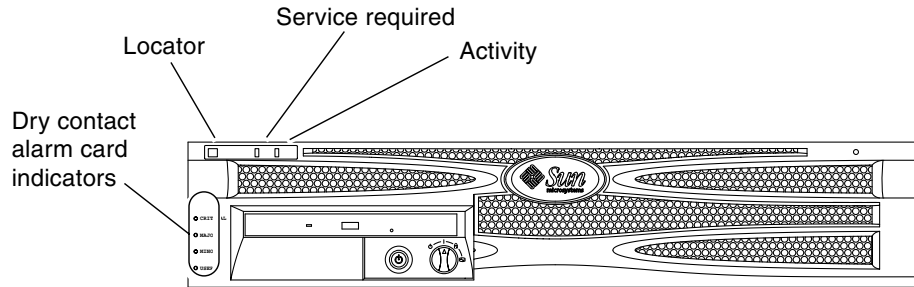

FIGURE 1-2 Location of Front Panel Indicators
- FIGURE 1-2 Location of Front Panel Indicators 4
The server has three LED status indicators. They are located on the front bezel (FIGURE 1-2) and are repeated on the rear panel. A summary of the indicators is provided in TABLE 1-2.
The dry contact alarm card has four LED status indicators that are supported by ALOM. They are located vertically on the front bezel (FIGURE 1-2). Information about the alarm indicators and dry contact alarm states is provided in TABLE 1-3. For more information about alarm indicators, see the *Sun Advanced Lights Out Manager Software User's Guide for the Netra 240 Server* (part number 817-3174). For more information about an API to control the alarm indicators, see Appendix A.